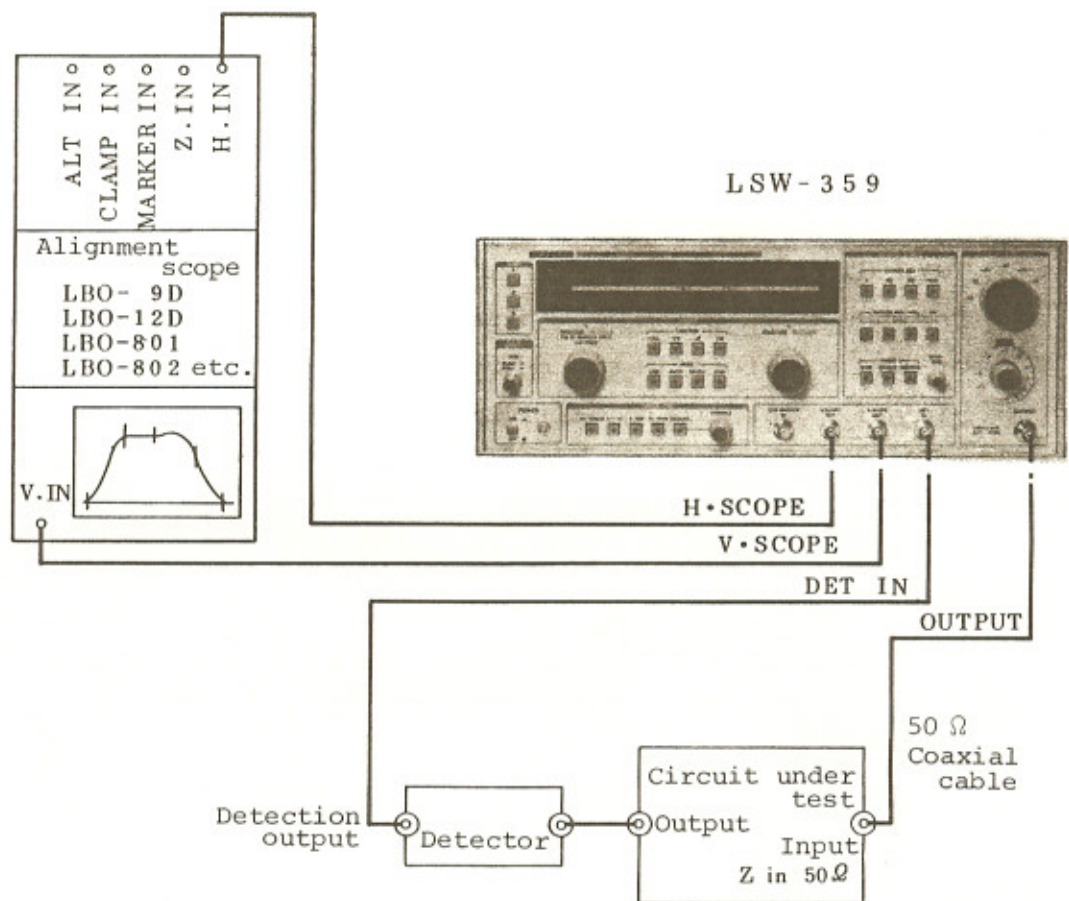

Figure 6-2 Set-up for general operation
- (1) Interconnect the LSW-359 with an alignment scope, a circuit to be tested, and a detector as shown in Figure 6-2. Set the controls in the same way as mentioned in 6.3.